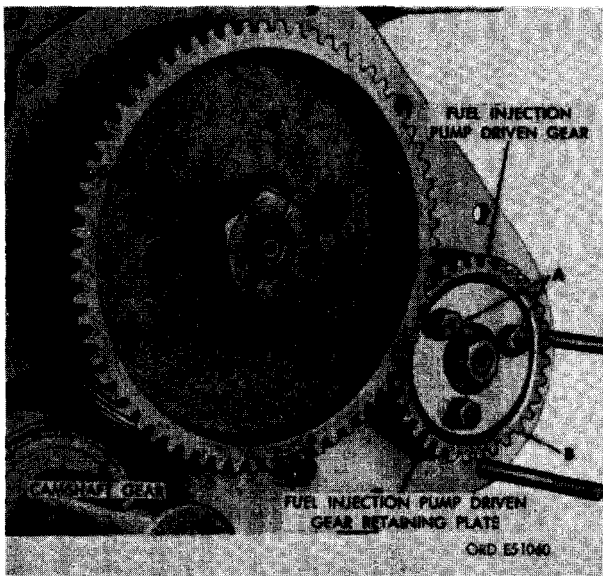

FIGURE 216. REMOVING INJECTION PUMP DRIVEN GEAR AND/OR REMOVING OR INSTALLING CAMSHAFT GEAR RETAINING NUT.
- (12) Figure 216. (A) Remove three 3/8 x 1-1/4 cap screws and 3/8- inch lock washers securing injection pump driven gear and retaining plate. (B) Remove injection pump driven gear retaining plate and gear. (C) Remove camshaft gear retaining nut.